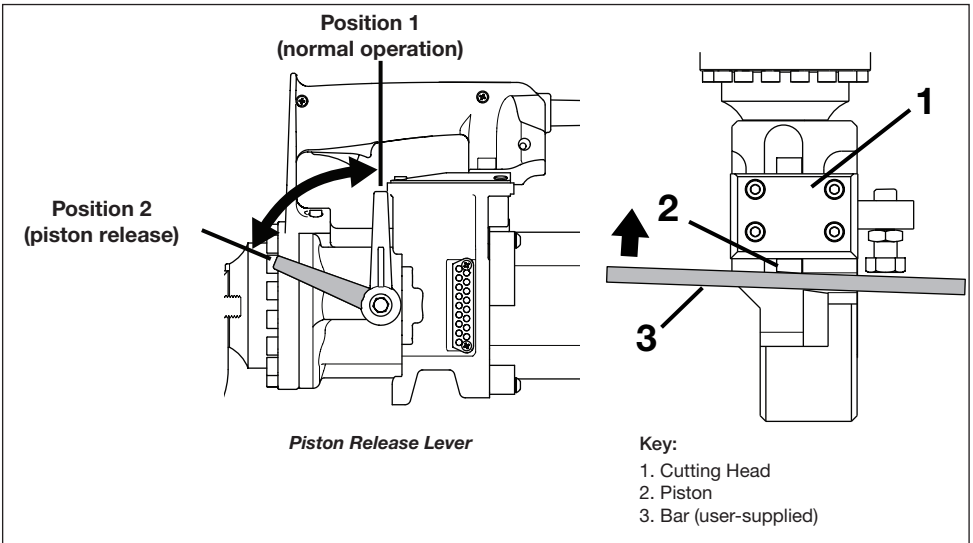

Figure 11, Piston Manual Retract Procedure
3. Move the piston release lever counterclockwise to manually release the piston. See Figure 11, position 2.
4. Using a rigid piece of steel bar, manually push the piston inside the cutter until it is returned to the “home” position. See Figure 11, item 3. This should dislodge any dirt or other material that had prevented the piston from returning during normal operation.
5. Move the piston release lever fully clockwise to return the cutter to normal operation. See Figure 11, position 1.
8. Clean the exposed portion of the piston. Remove any debris, chips or dirt from this area. See Figure 11, item 2.